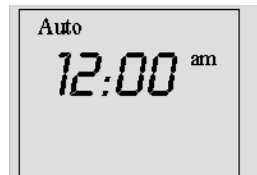

Fig.1
1. **Set Auto Start Time:** Press “Mode.” A clock time will appear on the LED screen with the hour digit blinking (Figure 1).